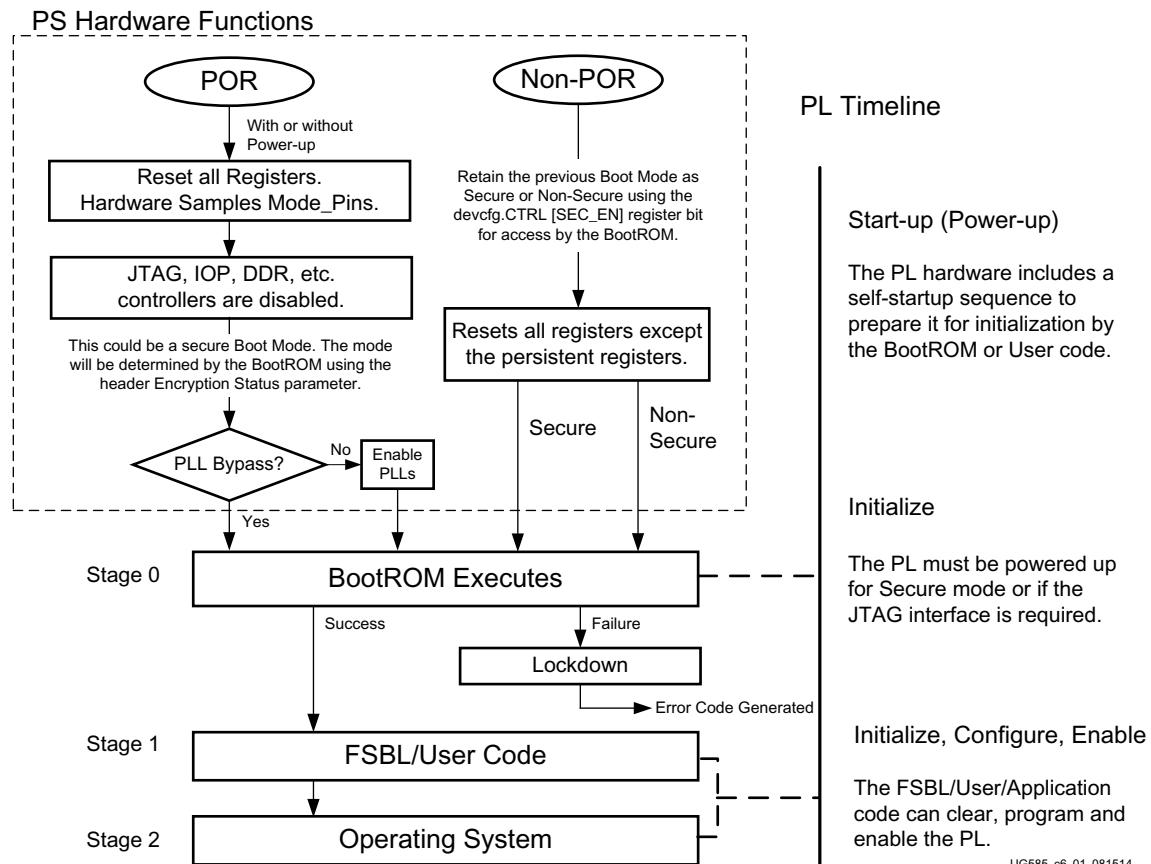

Figure 6-1: PS/PL Boot Process for Hardware and Software
- Figure 6-1
The first software to run is the BootROM code, then the FSBL/User code and system code. All of these steps are shown in Figure 6-1.
These steps and their subcomponents are illustrated in Figure 6-1, page 151.